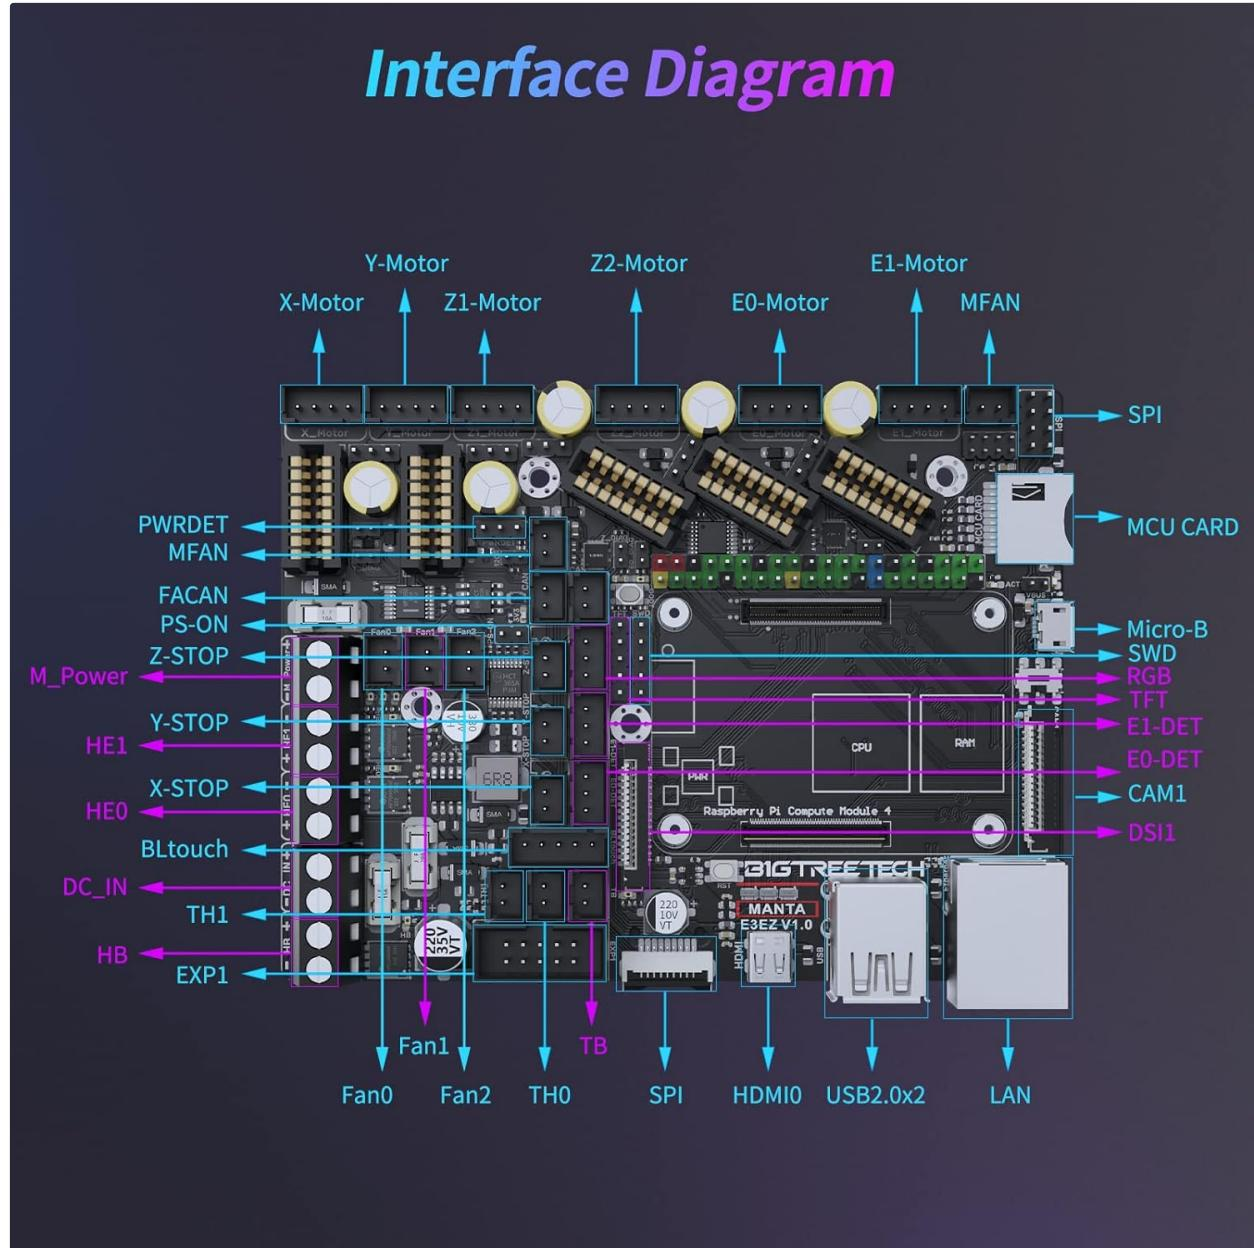

Figure 3.5: Detailed Interface Diagram with port labels.
- 4. Wire Components:** Reconnect all motor, endstop, heater, thermistor, and fan wires to their corresponding ports on the Manta E3EZ board, referring to the interface diagram (Figure 3.5). Pay close attention to polarity for power connections.